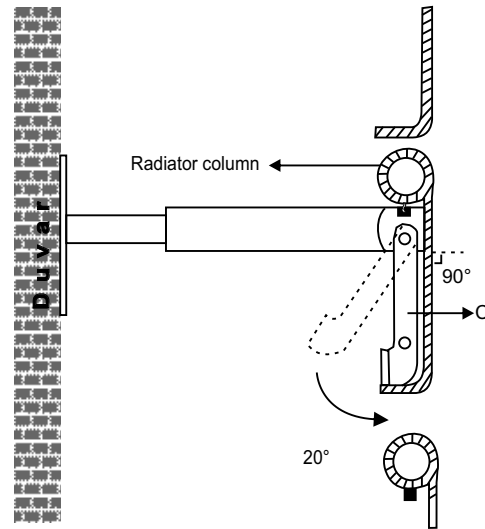

Figure 6
- 6** The piece C provided on the mounting element shall be inclined towards the wall with an angle of approx. 20 degrees, and after it is hanged so that it will fit into the recess provided at the end of the mounting element, it shall be drawn back to the 90 degrees position and fixed tightly to the radiator's body from inside (Figure 6). The same procedure shall be followed for each of the 4 mounting elements.